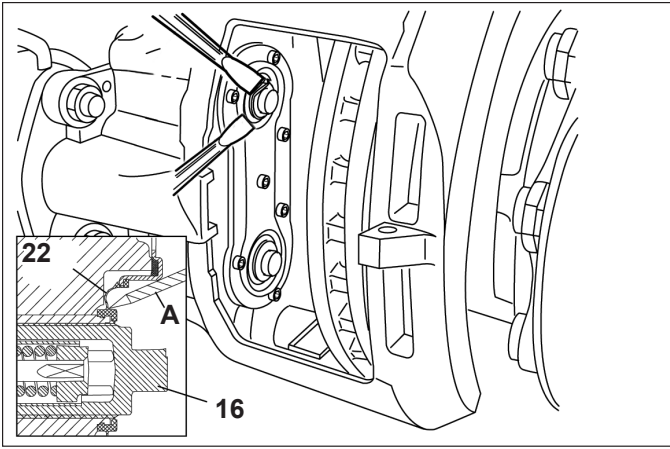

Figure 49 – Inner Seal Removal
4.5.8 See Figure 49. Carefully remove the inner seal using one or two flat-blade screwdrivers as shown. **CAUTION: Do not insert the screwdrivers so far that they come into contact with the threaded tubes.** Damage to the threaded tubes would require that the brake be replaced.